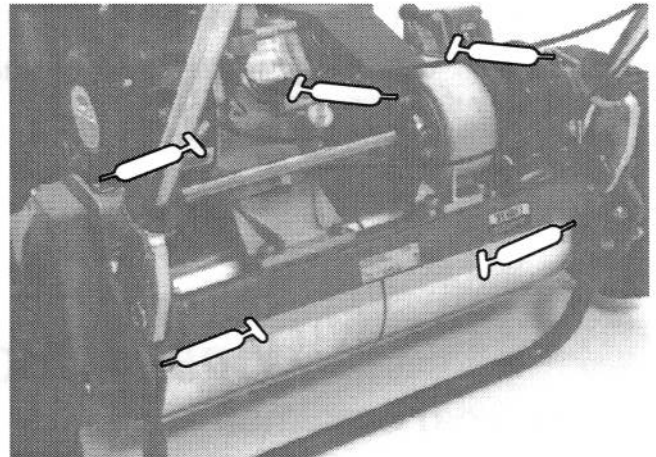
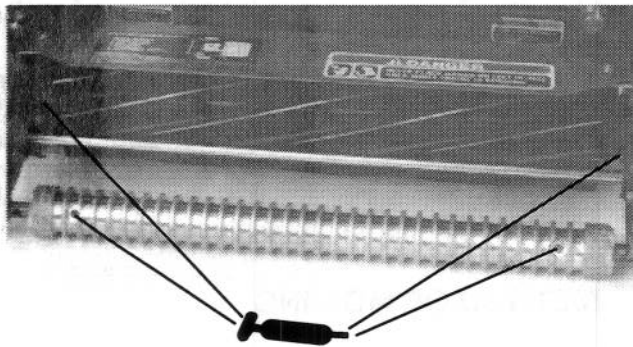
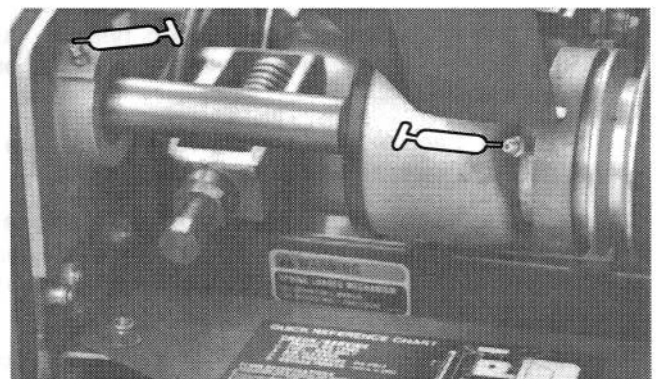

Figure 21
Figure 20
Figure 22
2. The grease fitting locations are: (2) on Front Roller (Fig. 20), (2) on reel bearings (Fig. 20), (2) on Drum Axles (Fig. 21), (3) on Differential (Fig. 21), (2) on Reel Countershaft Bearings (Fig. 22) and (2) on Belt Idler Pivots (Fig. 23).